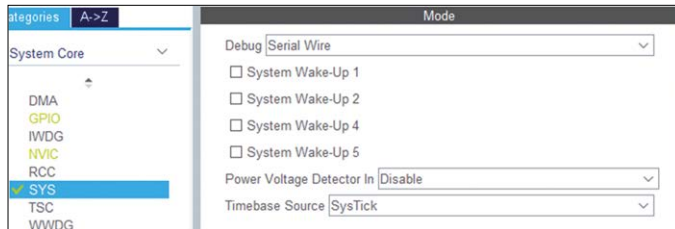

Figure 14.2: Enabling Debug.
- Click **SYS** under **System Core** and set **Debug** to **Serial Wire** (Figure 14.2). You will notice that PA13 and PA14 will be configured as SYS\_JTMS-SWDIO and SYS\_JTICK respectively.